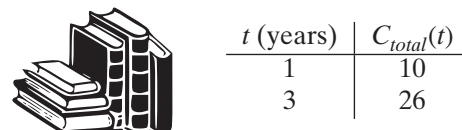

Figure P1.5 Number of courses completed.
- 1-5.** The number of college courses that Janice has completed toward her engineering degree after her first and third year of college is summarized in the table shown in Fig. P1.5. Assume that the total number of college courses that Janice has completed satisfies the linear relationship $C_{total}(t) = mt + C_{HS}$, where m is the number of college courses completed per year and C_{HS} is the number of college courses she completed while still in high school.
- (a) Using the data given in Fig. P1.5, find the equation of the line representing the total number of college courses C_{total} , and determine both the number of college courses per year m and the number of courses she completed in high school C_{HS} .